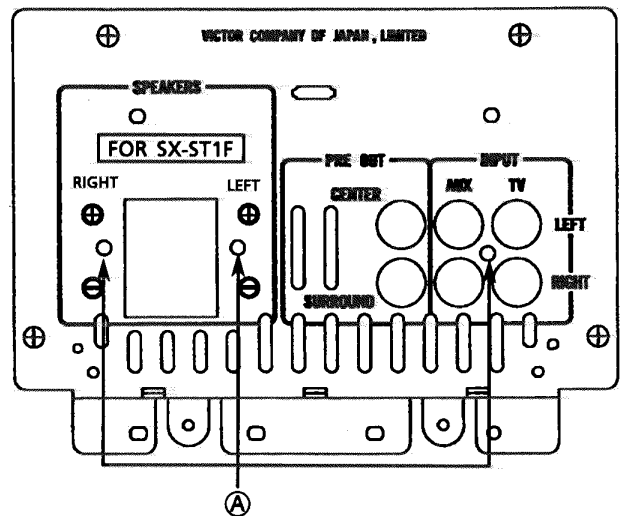

Fig.2
5. Remove 3 screws (A) which fasten rear side of input PCB. (See fig.2)
(Fig. 2)